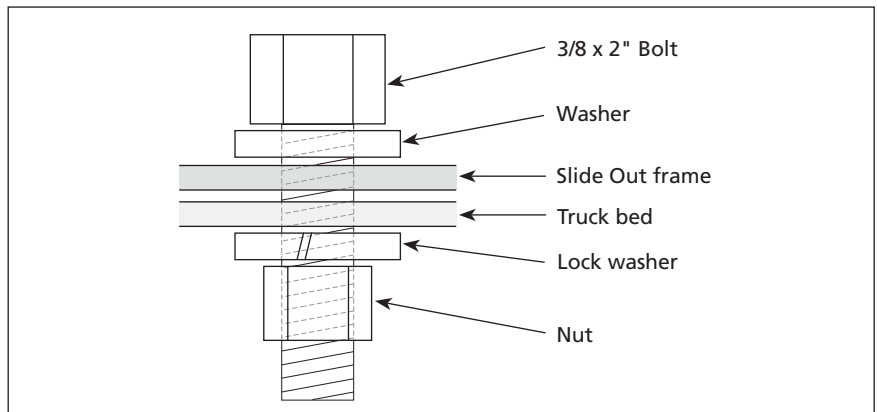

Figure 1 - Bolt Slide Out frame to truck bed
- ▲ It is suggested (but not required) to bolt the slide frame to the truck bed. The frame cross members have been pre-punched to allow for thorough bolting. Use Grade 8 stainless steel fasteners (not included). See Figure 1.